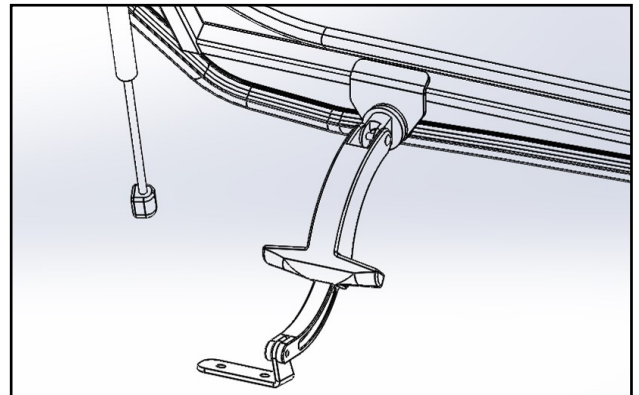

Fig. 10.3 Windshield latch orientation
**10.3** For a glass windshield, install the latches to the windshield frame, oriented as shown in fig. 10.3.